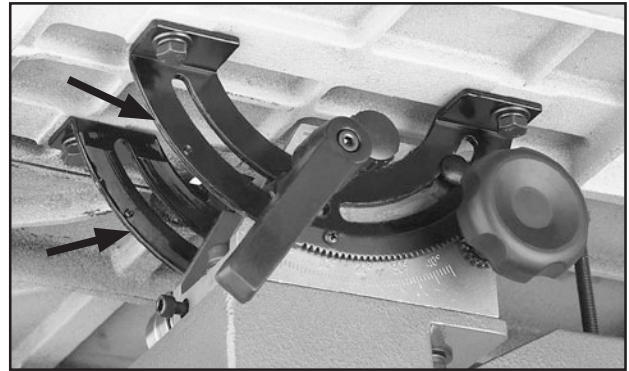

Figure 82. Trunnion lubrication location (G0514X).
3. Apply a thin coat of light all purpose grease to the outside surfaces of the trunnion (**Figure 82 & 83**).